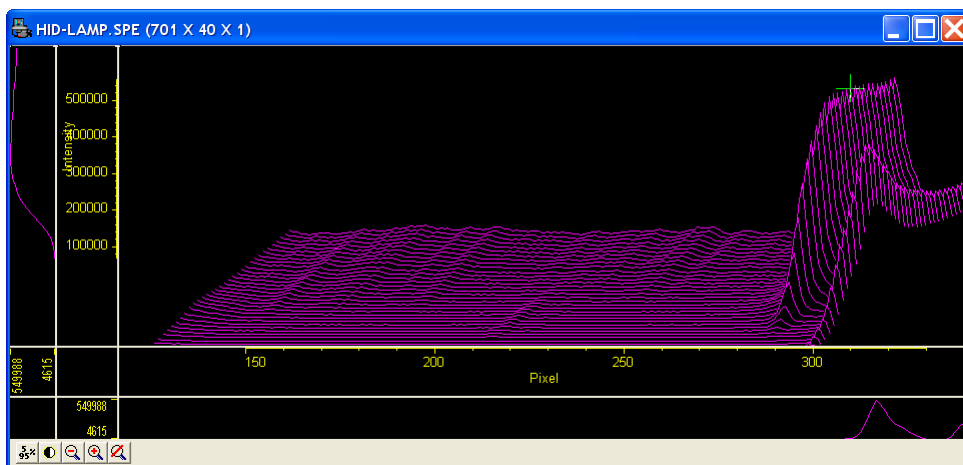

Figure 58. Hid-lamp.spe 3D Graph expanded to show Defined Region
2. Click on  (Zoom In). The view will change so that only the selected region is displayed as shown in Figure 58.